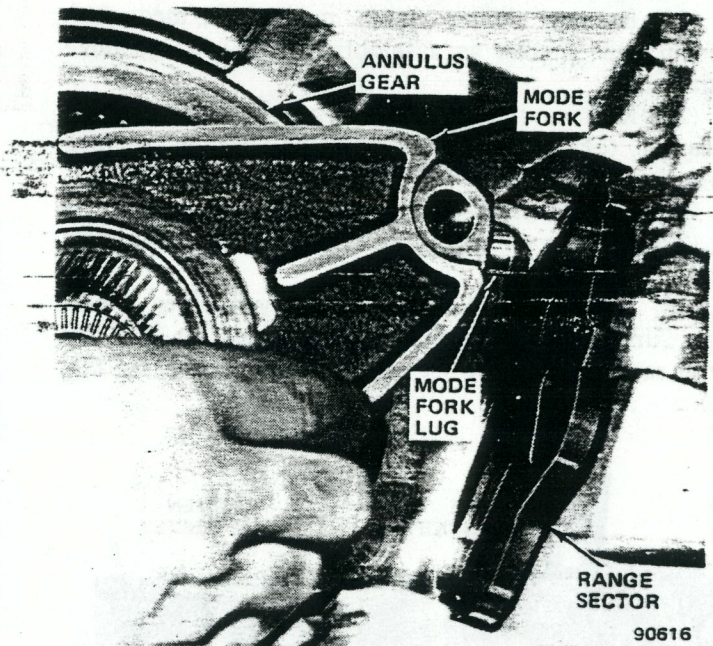

Fig. 2D-21 Annulus Gear and Mode Fork Removal/Installation
(24) Remove planetary thrust washer and remove planetary assembly (fig. 2D-22).